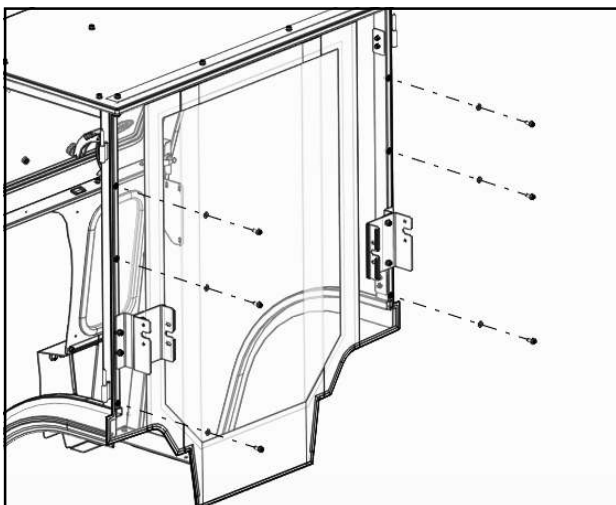

Fig. 12.4 (hardware for side frames)
**12.4** Install the hardware listed below into the exposed threaded inserts found on the back of the side frames. See Fig. 12.4